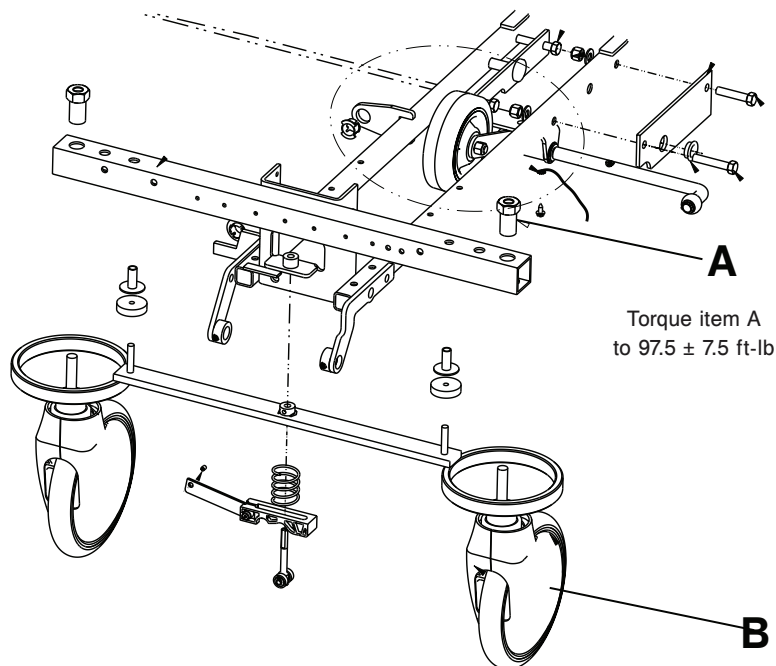

Figure 2 – Caster assembly replacement
5. Using a 3/4" combination wrench and a 3/4" socket, remove the caster nut (A) that holds the caster (B) to the base frame (Figure 2).